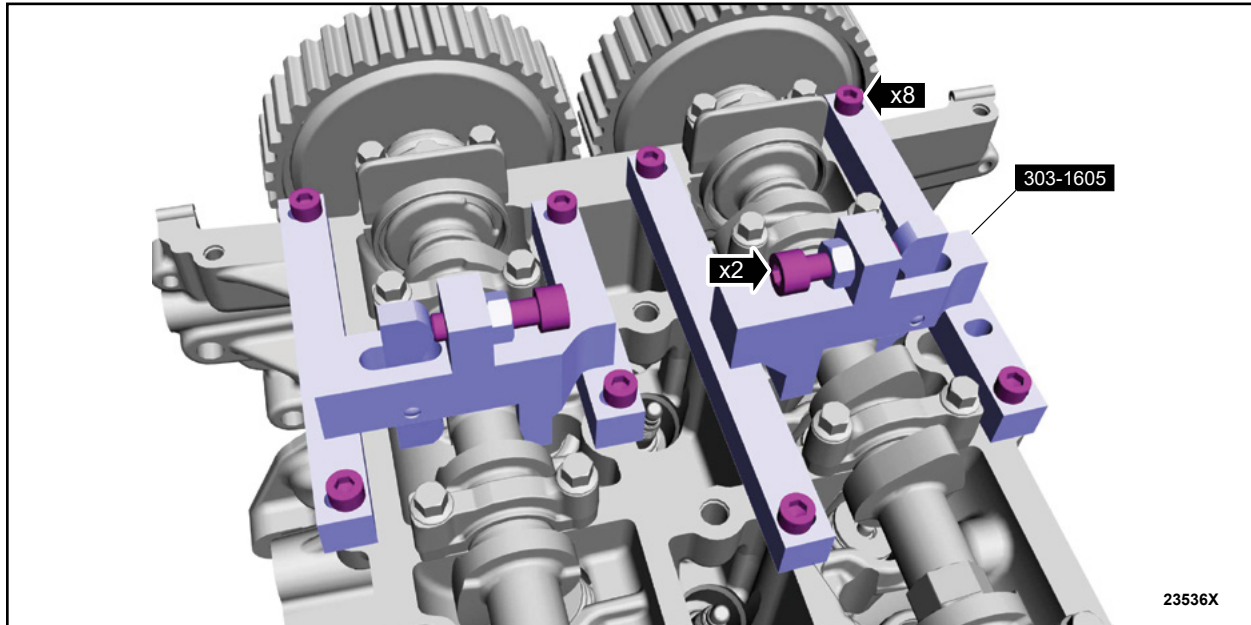

FIGURE 49
60. Remove Special Service Tool 303-1605. See Figure 49.